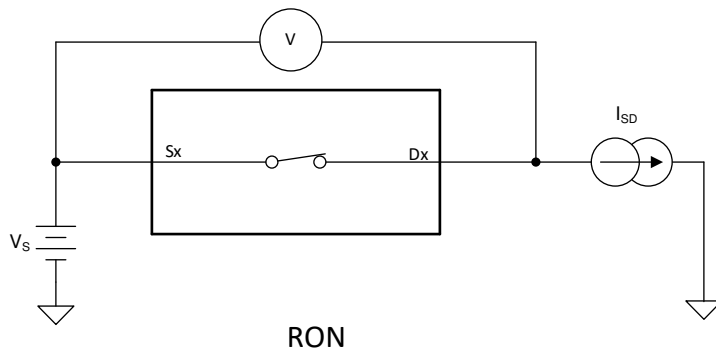

Figure 6-1. On-Resistance Measurement Setup
The on-resistance of a device is the ohmic resistance between the source (Sx) and drain (Dx) pins of the device. The on-resistance varies with input voltage and supply voltage. The symbol  $R_{ON}$  is used to denote on-resistance. Figure 6-1 shows the measurement setup used to measure  $R_{ON}$ . Voltage (V) and current ( $I_{SD}$ ) are measured using this setup, and  $R_{ON}$  is computed with  $R_{ON} = V / I_{SD}$ .